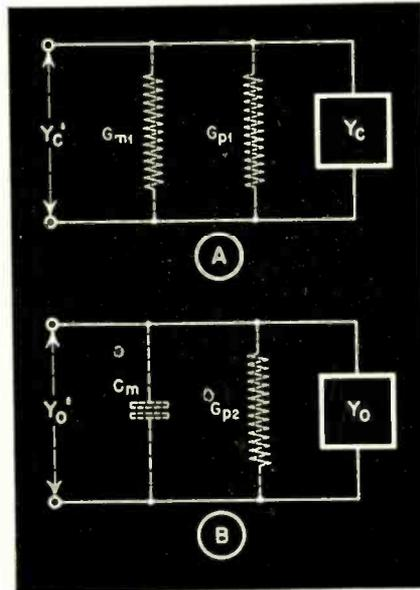

Fig. 4. In (A), a representation of the fictitious cathode load, Y_c^1 , and (B) of the plate load Y_o^1
The significance of the fictitious loads, Y_c^1 and Y_o^1 , is illustrated by Fig. 4. Thus the gain expression reduces to
On the basis of this expression, it is possible to select the correct values of parameters for optimum performance. Of these, the tube parameters (G_{m1} , R_1 , G_{m2} , R_2) must be regarded as fixed. Likewise, the resistive components of Y_c^1 and Y_o^1 are not subject to choice. It is evident from inspection of (10) that they should be as low as possible, but the Q of the coils, as well as the internal resistances of the tubes set a lower limit, as can be seen from (9) and Fig. 4.